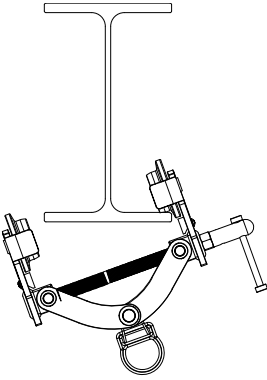
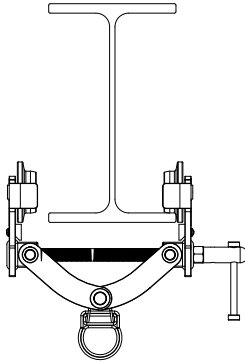
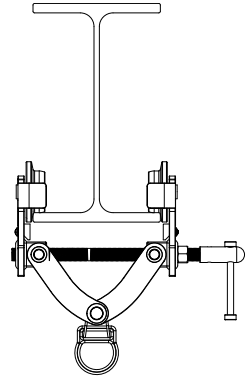

Figure 2
Figure 3
Figure 4
Step 3. Slide the trolley wheels on the Threaded T-Handle side onto the near side flange of the I-Beam. (See Figure 2) Raise the trolley so that the trolley wheels are in-line with the far side flange of the I-Beam (See Figure 3) and tighten the Threaded T-Handle until the flanges of the trolley wheels are tight against the outer edges of the I-Beam flange. (See Figure 4) Loosen the Threaded T-Handle until there is between 1/16 inch and 1/8 inch of total gap between the flanges of the trolley wheels and the outer edges of the I-Beam flange. The distance between the outer edges of the I-Beam flange and the flanges of the trolley wheel **MUST NOT EXCEED 1/8 INCH TOTAL SPACE!**